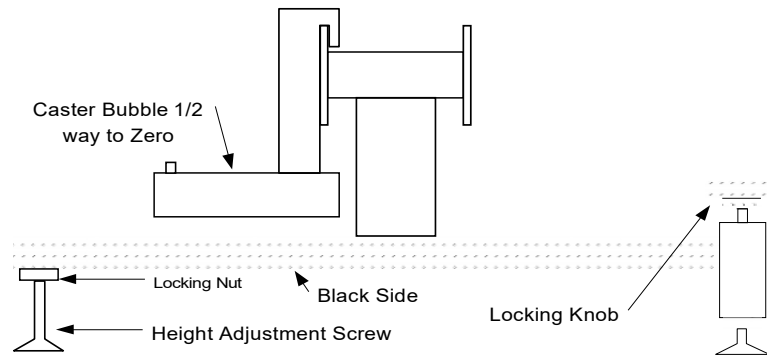

Figure 11
4. Loosen the nut to adjust the height. Adjust the screw until the caster bubble is one half of the way back to zero. Lock the nut until tight. Do not over tighten. (Fig. 11)